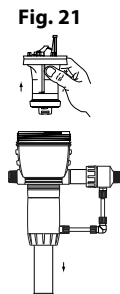

Fig. 21
- Refit the bell taking care not to damage its seal and screw by hand (**Fig. 21**).